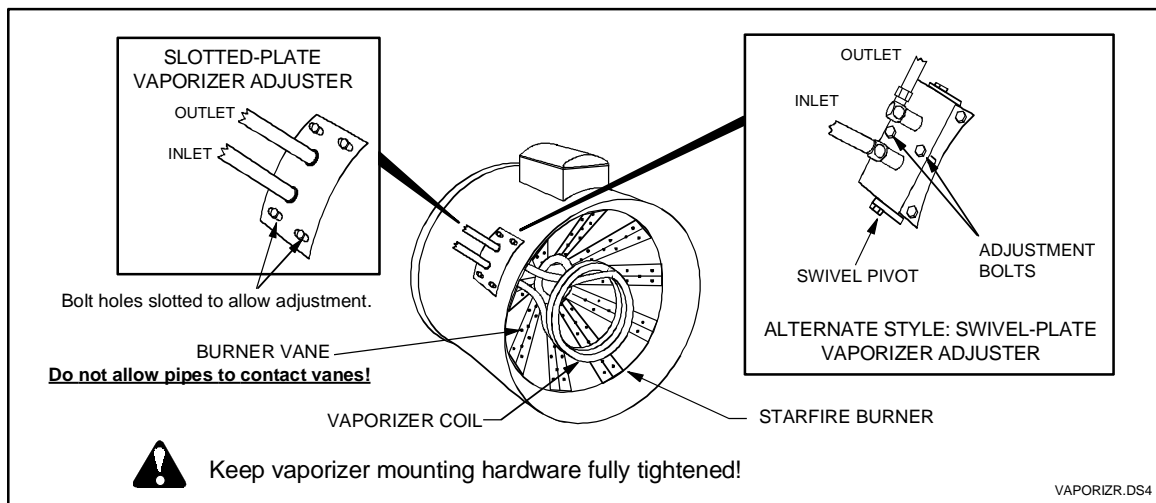

Fig. 7-3 LP fuel vaporizer, Starfire burner models
**Starfire Burner Models, Slotted Plate Vaporizer Adjusters:** If the gas line is very cold or "frosted," loosen the adjustment plate bolts and move the vaporizer slightly closer to the flame. If gas line is too hot to touch, move vaporizer slightly away from the flame. See Fig. 7-3.
el elbow adaptor, making certain the LP plumbing assembly runs parallel to the fan housing. See Fig. 7-3.